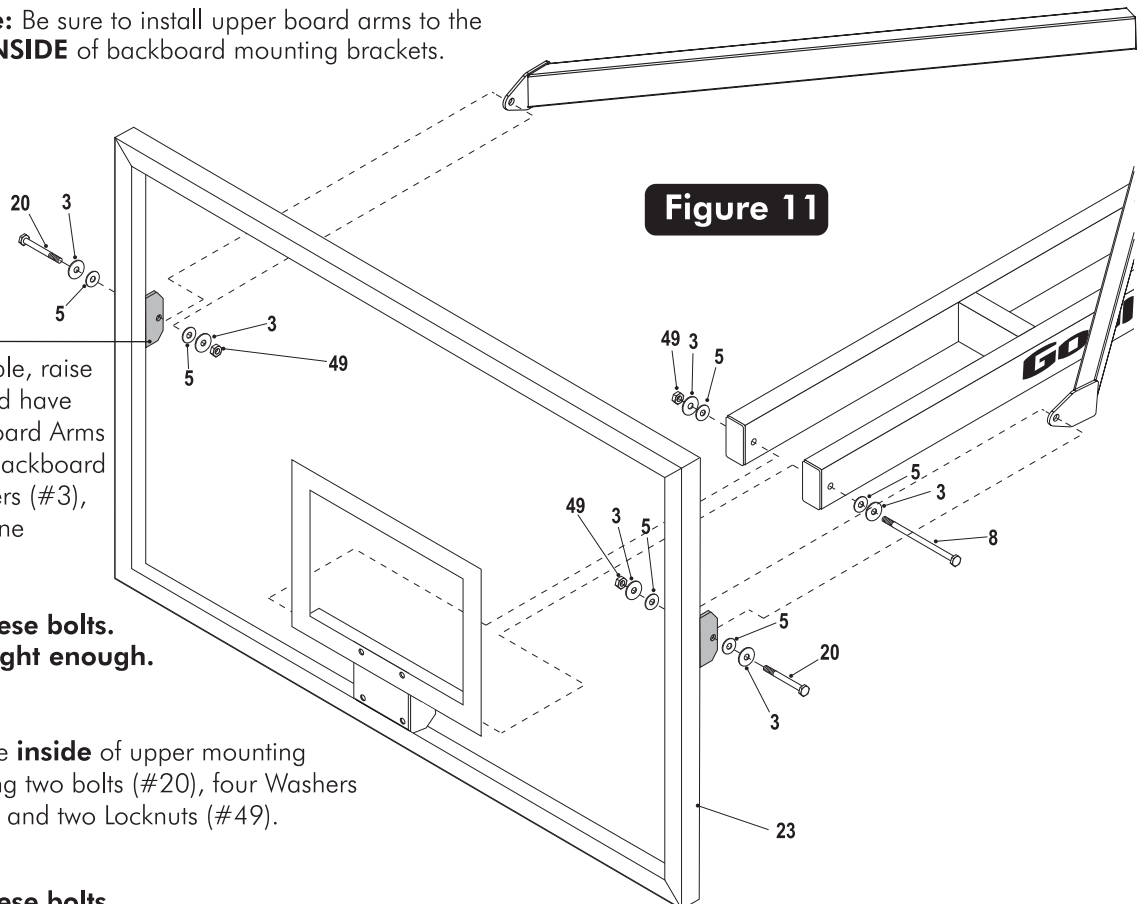

Figure 11
14. With at least four capable people, raise the backboard assembly up and have the fifth person attach Lower Board Arms to the Rim Support (# 21) on backboard using one bolt (#8), two washers (#3), two Plastic washers (#5) and one Locknut (#49). See Figure 11.
15. Attach Upper Board Arms to the **inside** of upper mounting brackets on the backboard using two bolts (#20), four Washers (#3), four Plastic Washers (#5) and two Locknuts (#49). See Figure 11 and Detail A2.